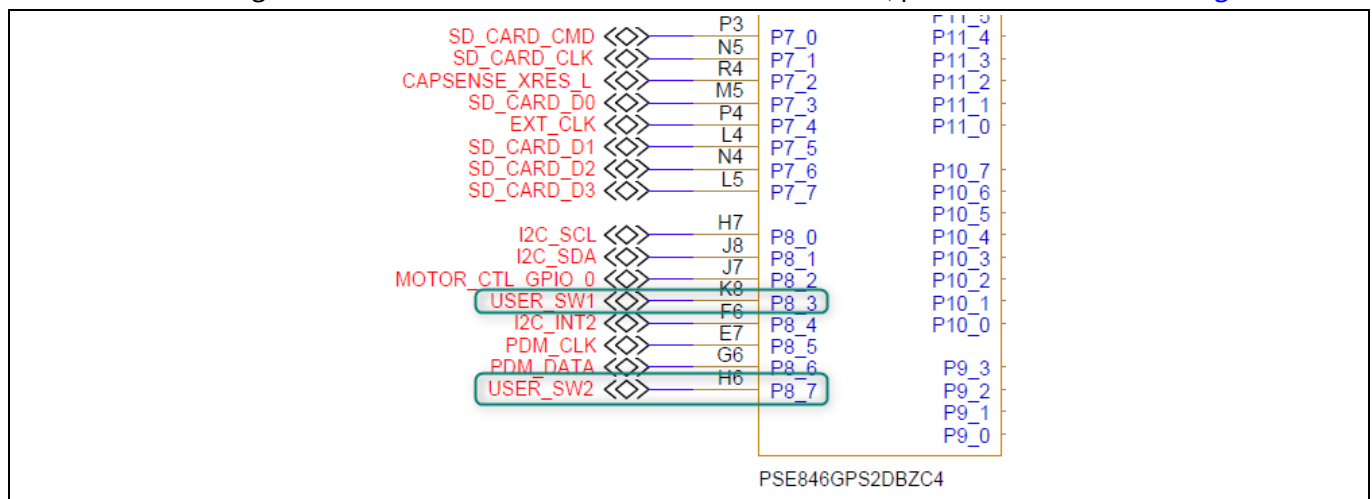

Figure 21 Connection of buttons in EVK schematics
3. In the PSOC™ Edge EVK user buttons are connected to **P8.3** and **P8.7**, per the kit schematic in Figure 21